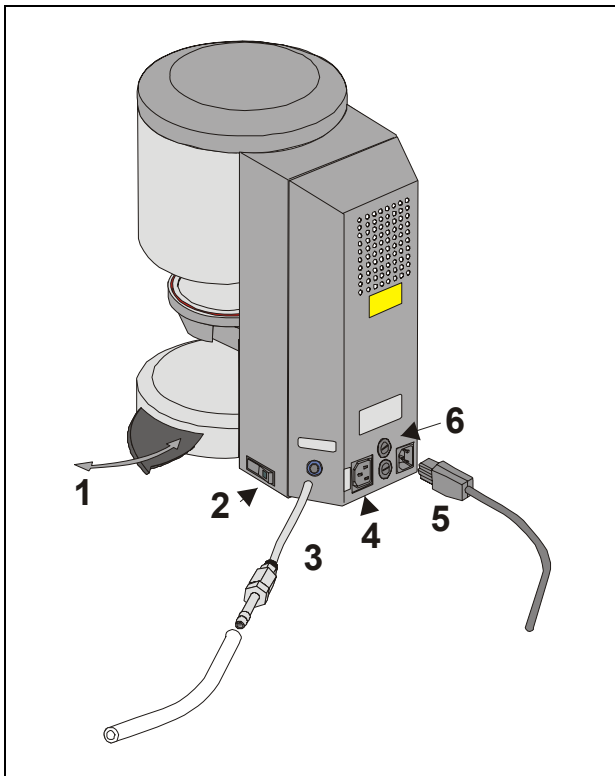

Abb. 1
- Connect the vacuum pump (**Abb. 1**)
- Use the supplied mains lead to connect the unit to the mains supply (**Abb. 1**). The connecting cable should be a hot equipment supply lead of type HO5RR-F 3G1,0 mm2. Avoid connecting to a multiple socket outlet with extension lead, because there is a risk of fire when overloaded.
If the unit is not used the lift should be retracted into the firing chamber and the unit switched off by the main switch (see Fig. 1, item 2). Closing the firing chamber protects the insulation and prevents the absorption of moisture. To shut down the unit press the button with the switch-off symbol, see section 13, the lift is automatically retracted, the display indicates, switch off the unit by the main switch.